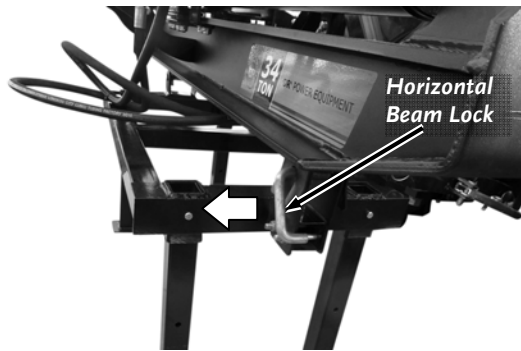

Figure 20
1. Pull out on the Horizontal Beam Lock (**Figure 20**) and lift up on the Beam to rotate it to the vertical position (**Figure 21**).